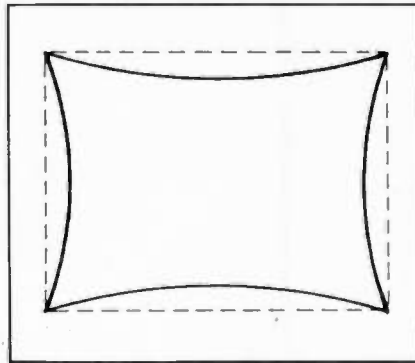

Fig. 1—The effect of pincushioning on the raster of a color TV picture tube.
■ The electron beam in a CRT, emitted from the fixed electron gun, is deflected across the CRT screen by the magnetic field created by the deflection yoke. If the screen were a truly spherical (curved) surface, the distance the electrons travel before they strike the screen would be the same for all beam positions, and a raster with straight edges would be produced. However, the screen of a color TV picture tube is far from spherical; in fact, it is relatively flat. Consequently, the distance from the electron gun to where the beam strikes the screen is shortest at the center and greatest at the four corners. This difference produces a distorted raster, with the four corners stretched out and the sides bowed in, as shown in Fig. 1. This distortion of the raster is called *pincushioning* and increases approximately as the square of the tangent of half of the deflection angle. This means that pincushion distortion is much greater in a 110-degree tube than in a 90-degree version.